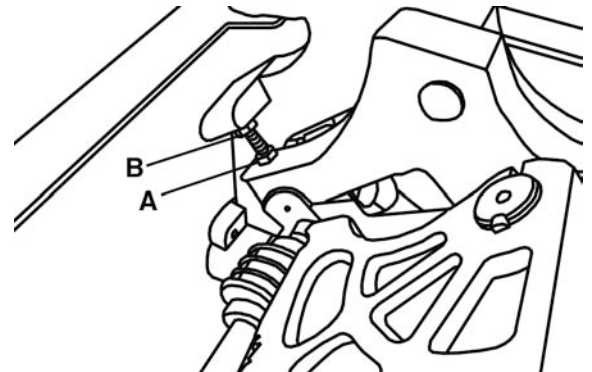

FIGURE 25
5. If the 45 degree positive stop is not set properly, turn the same handwheel clockwise as far as it will go and follow the same procedure using lock nut (A) Fig.25 and stop bolt (B). The stop bolt (B) should stop against the front trunnion bracket when the blade is at 45 degrees to the table. Recheck and adjust further if necessary. Retighten lock nut (A).